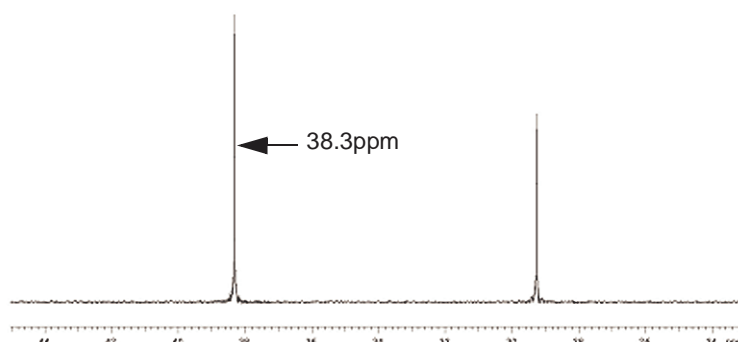

Figure 86. Adamantane Reference Spectrum
11. Repeat the collection of data and type `setref` again until the frequency of the low field line of adamantane is 38.3 ppm, see Figure 86.